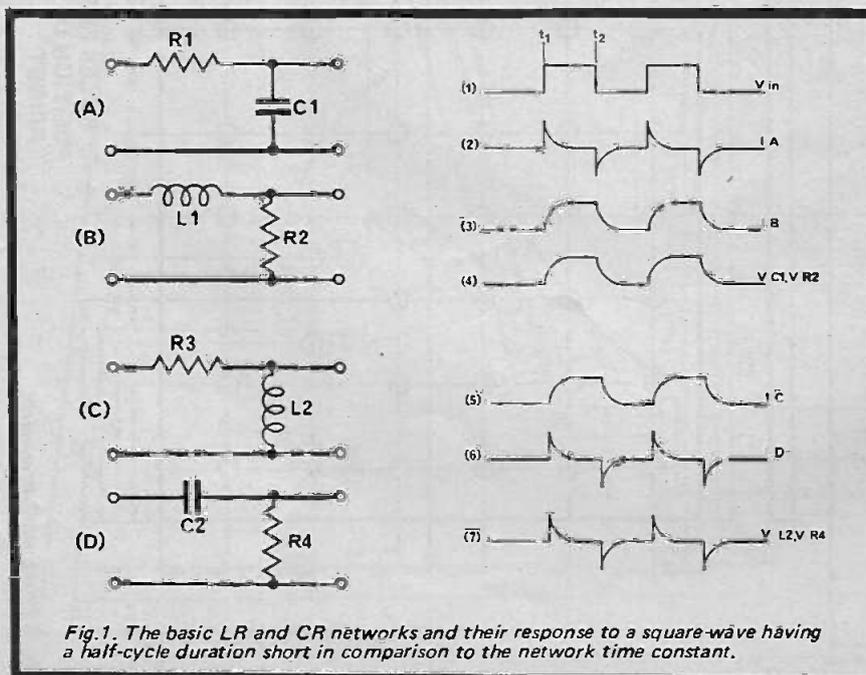

Fig.1. The basic LR and CR networks and their response to a square wave having a half-cycle duration short in comparison to the network time constant.
In case (A) of Fig. 1, the capacitive current will be high when the square wave goes positive (time  $t_1$ ), and will rapidly lessen as the capacitor becomes charged. The same thing will happen when the square wave goes negative (time  $t_2$ ) except that the capacitor will now supply current back to the supply and hence the current will flow the other way. The current waveform through the network will thus be as shown in waveform 2.